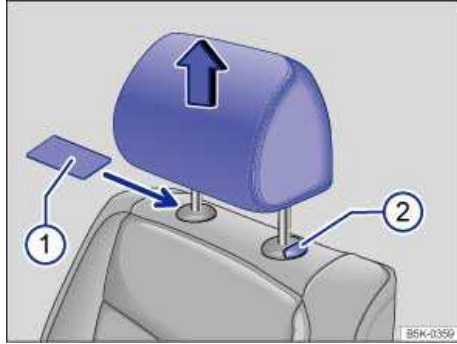

Fig. 38 Removing the front head restraints.
- Slide a flat object, such as a plastic credit card, underneath the right side of the cap on the right-hand seat guide rod ⇒ fig. 38 \(1\) to unlock the head restraint.